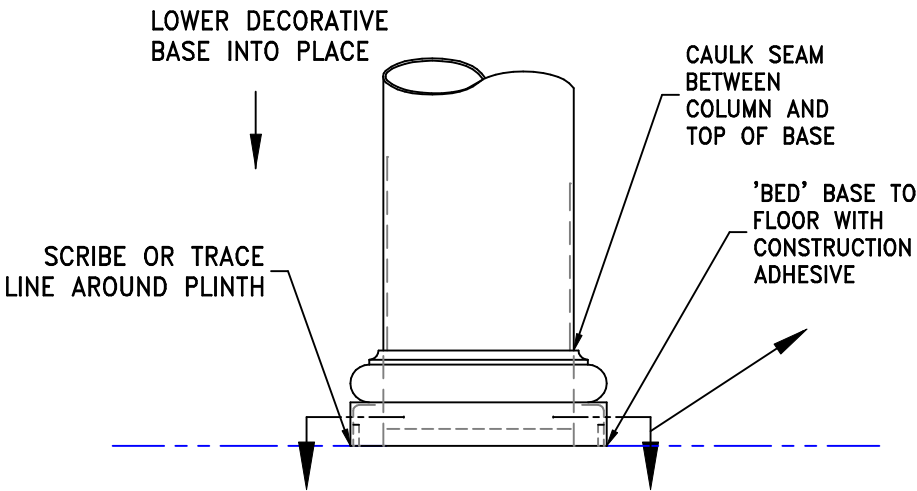
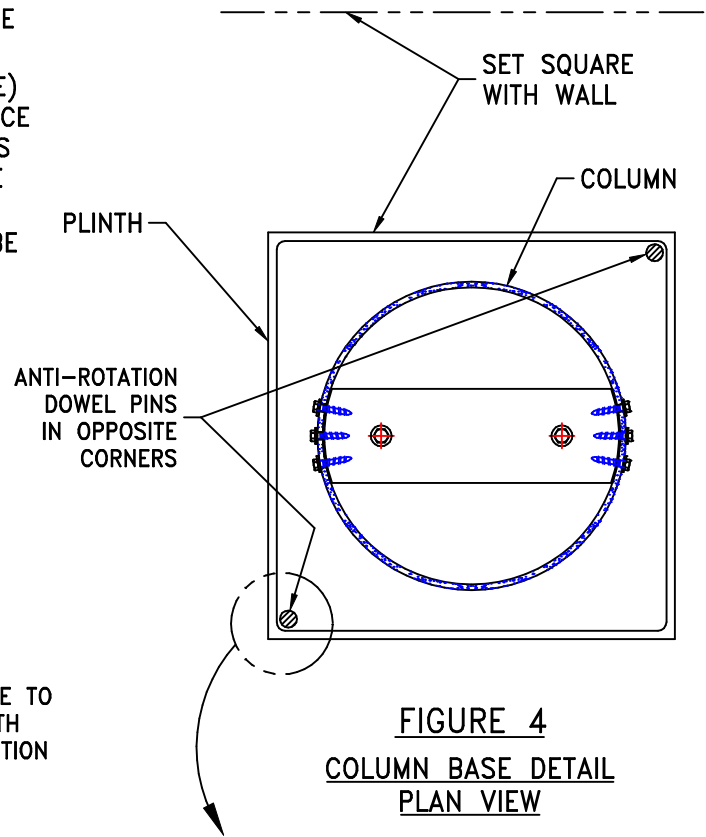
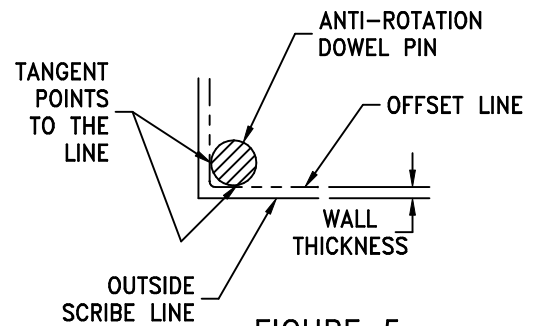
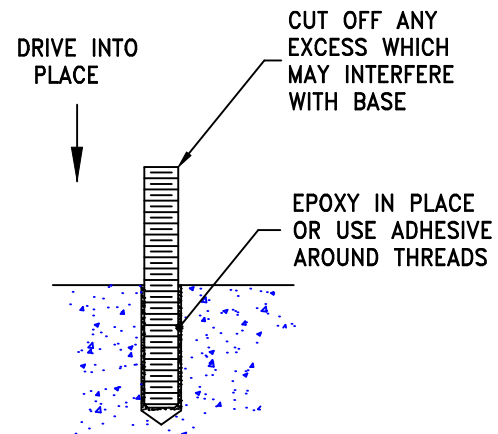

FIGURE 3
FIGURE 4
FIGURE 5
FIGURE 6
8. LOWER THE DECORATIVE BASE INTO PLACE (FIG. 3) AND SQUARE UP TO WALL OR OTHER BUILDING FEATURE (FIG. 4). SCRIBE/TRACE A LINE AROUND THE PLINTH (SQUARE PORTION OF BASE) AND THEN OFFSET THAT LINE, TOWARDS THE INSIDE, A DISTANCE EQUAL TO THE WALL THICKNESS OF THE PLINTH. DRILL HOLES IN THE FLOOR ON OPPOSITE CORNERS OF THE OFFSET SQUARE WHICH ARE TANGENT TO THE OFFSET LINES (SEE FIG. 5) FOR THE PLACEMENT OF ANTI-ROTATION DOWEL PINS. PINS CAN BE A PIECE OF 1/2" GALVANIZED ALL-THREAD DRIVEN INTO THE HOLE AND THEN CUT TO LENGTH WITH HACKSAW (FIG. 6)
9. RUN A BEAD OF ADHESIVE AROUND THE OUTLINE OF THE BASE AND LOWER BASE INTO FINAL POSITION (FIGURE 3). REMOVE EXCESS ADHESIVE FROM FLOOR. CAULK THE SEAM BETWEEN THE TOP OF THE BASE AND THE COLUMN WALL. FOR MARBLED COLUMNS BE SURE TO MASK THE AREA BEFORE APPLYING CAULK TO SEAM